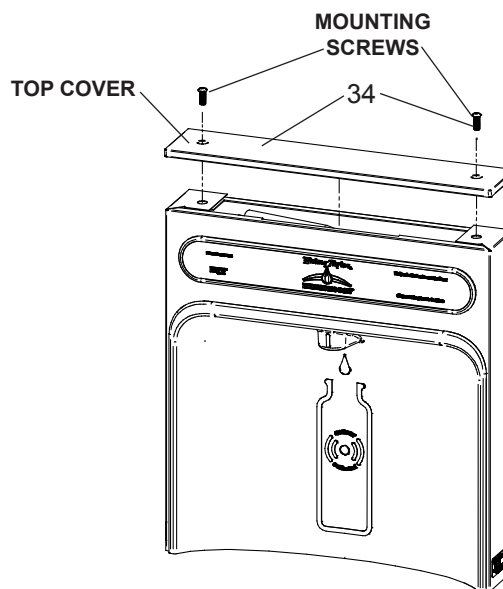

Fig. 7
- 1) **Remove two (2) mounting screws** with 5/32" Allen wrench holding top cover to Bottle Filler (See Fig. 7). Remove top cover. Note do not discard mounting screws, they will be needed to reinstall top cover.
- 9) **Once Bottle Filler is installed on wall plate tabs**, water line and power cord are installed properly, push top of Bottle Filler toward wall and line up top cover two (2) holes.
- 10) **Reinstall Top Cover on Bottle Filler** (See Fig. 7) with two mounting screws from step 1 above. Caution, do not over tighten screws.